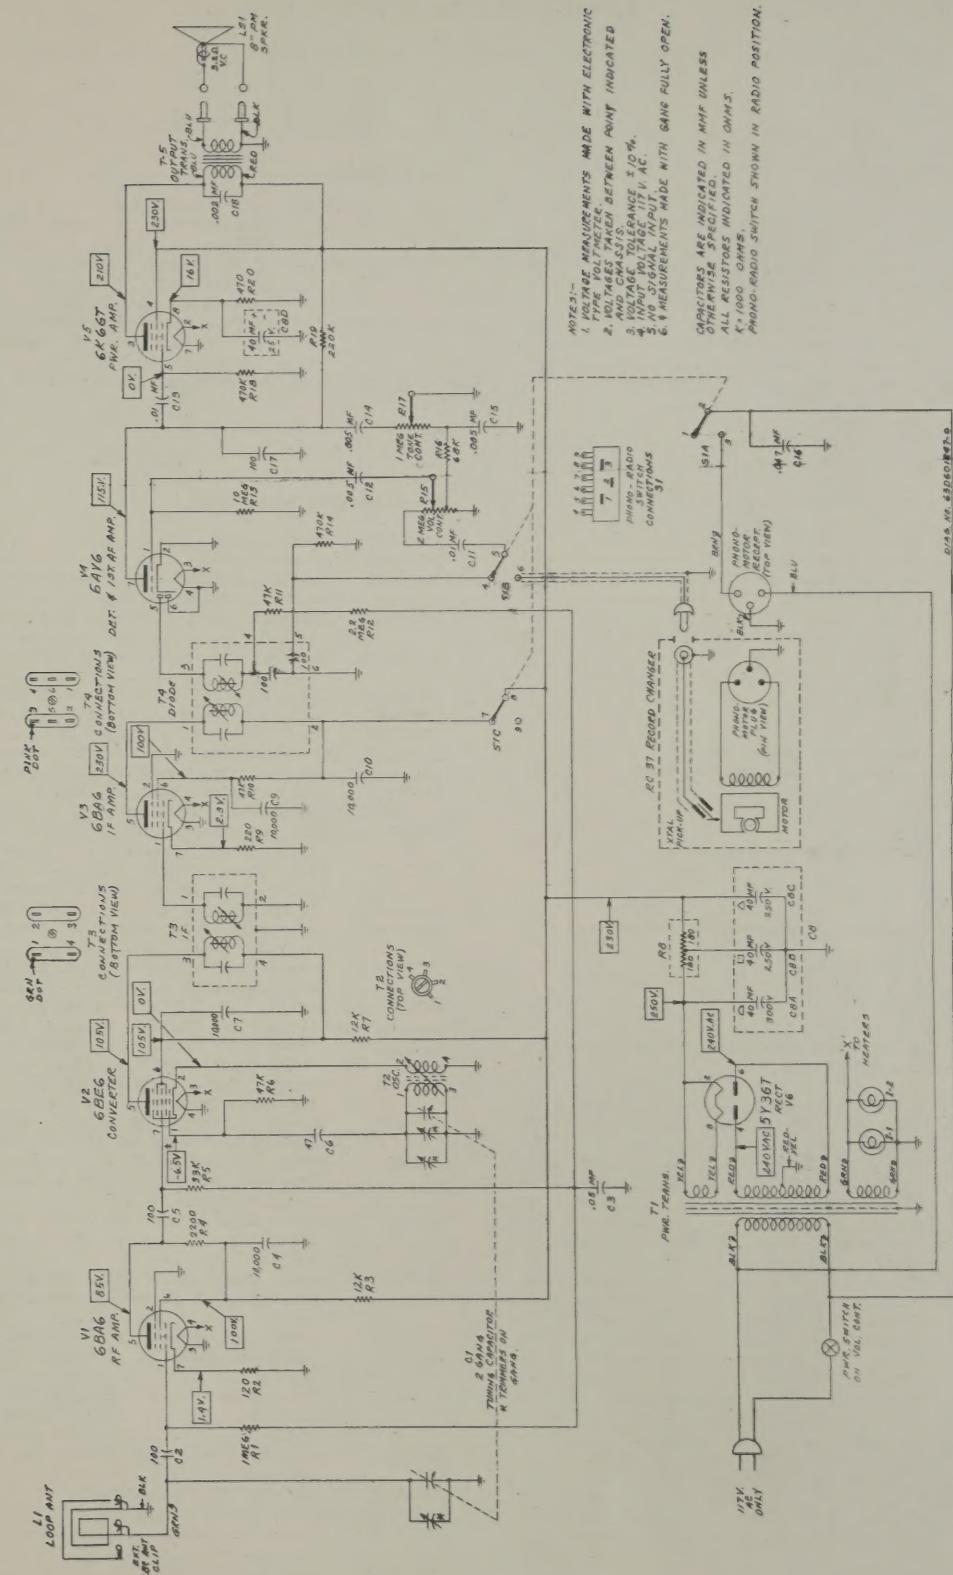

FIGURE 3. TUBE
8. See Figure 3 for adjustment locations, and the following chart for procedure.